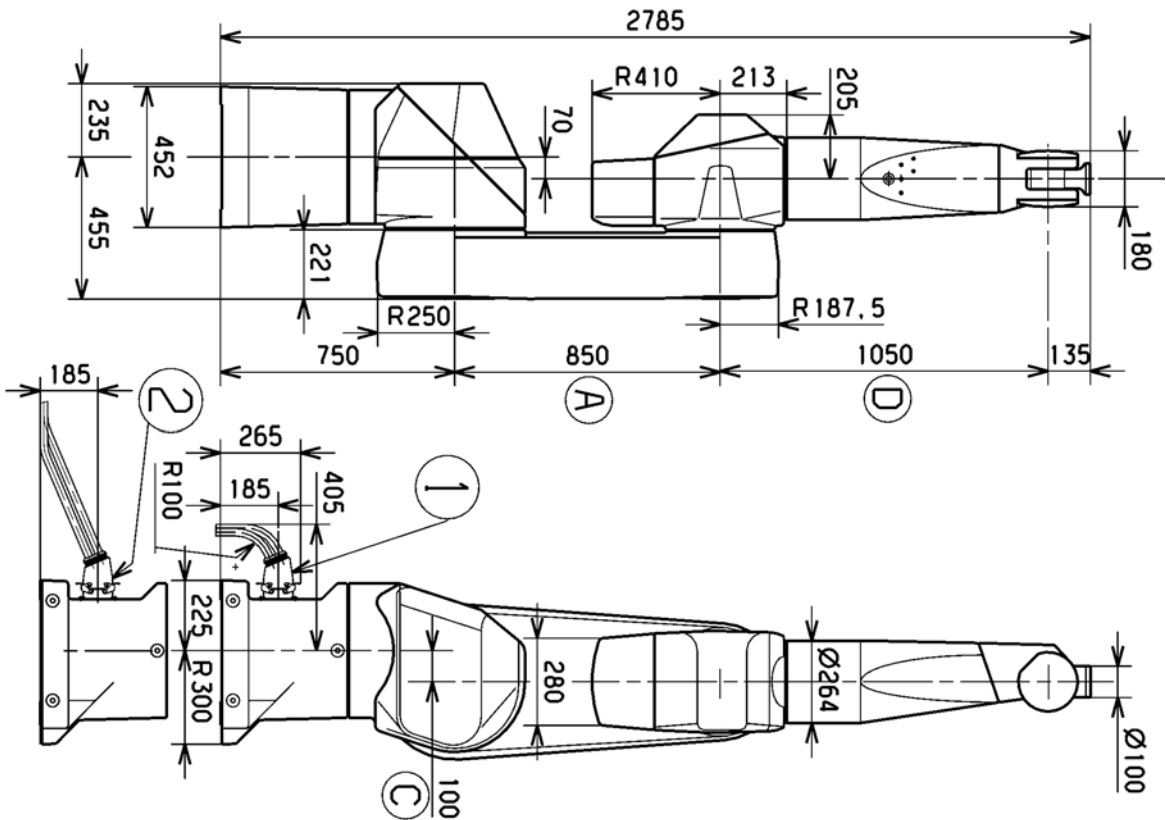

Figure 1.3
- (3) Number of active joints:
- (4) RX family changed to "B".
- (5) Upper case letters to indicate an option.
- L = extended forearm: dimension (A) + dimension (C) + dimension (D) **(figure 1.3)**.
Long arm: for arm with different geometry where forearm is extended **(figure 1.3)**.